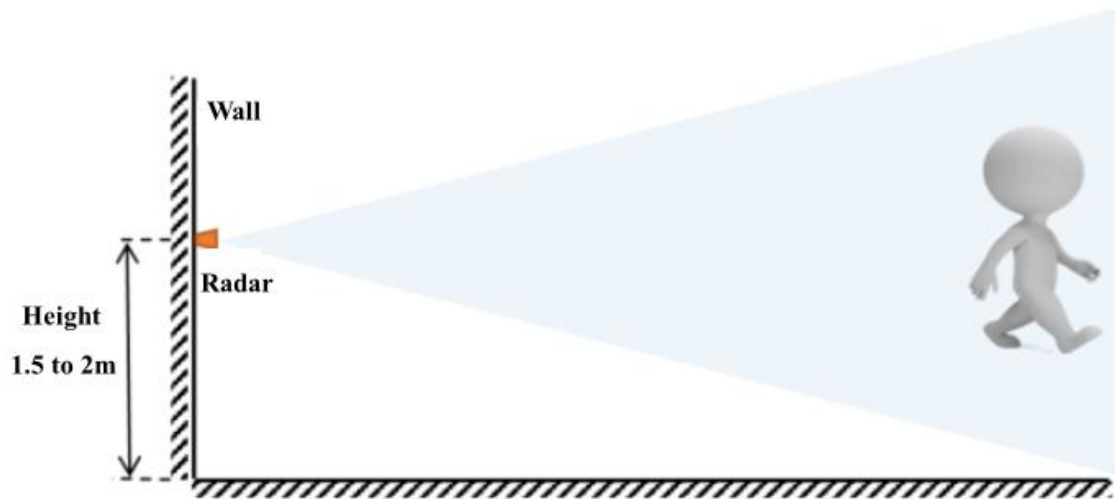

Figure 9 Wall-Mounted Installation Diagram
- Figures 9 and 10 show the wall-mounted installation method.